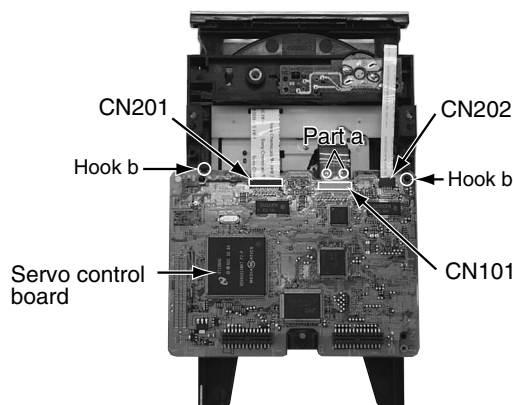

Fig.5
■ Removing the servo control board (see Fig.5)